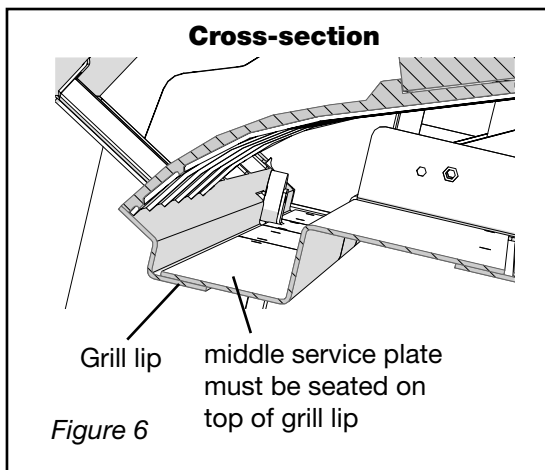

Figure 6
- b) the front of the service panel is tucked inside, sitting on top of the grill lip. (Figure 6)